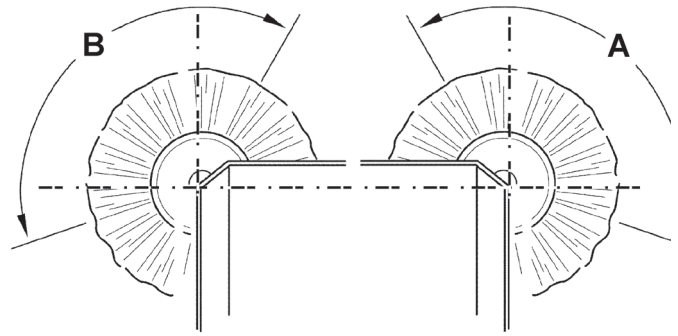

Figure 7
- Check that the side broom prints are as shown in the figure (A and B, Fig. 7).